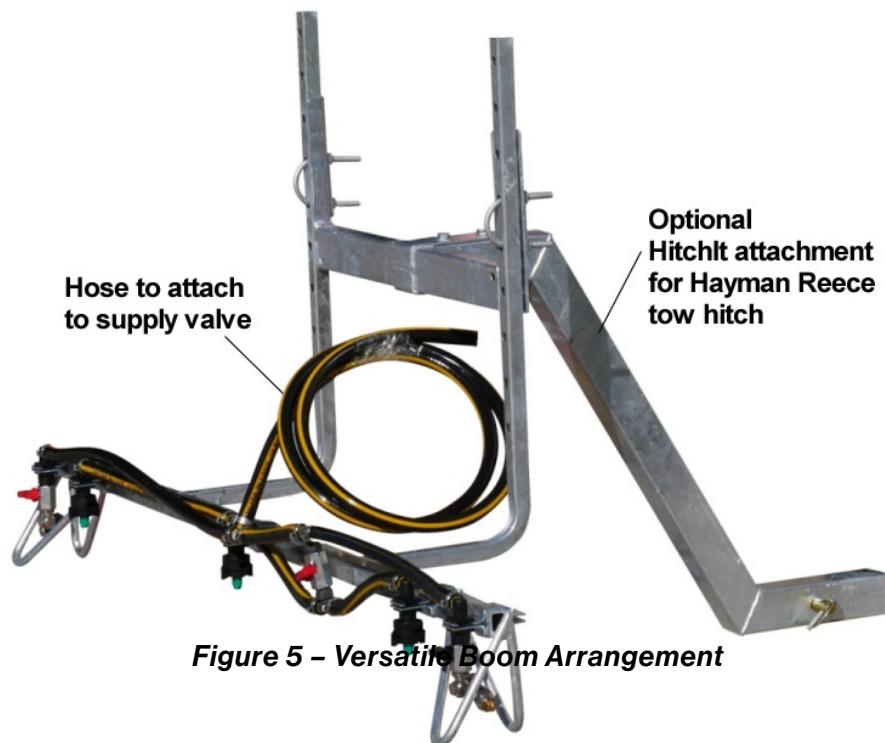

Figure 5 – Versatile Boom Arrangement
- Where the optional Versatile Boom is ordered (refer to Figure 5), install it to the vehicle and connect the hose to the manually operated valve near the tank.